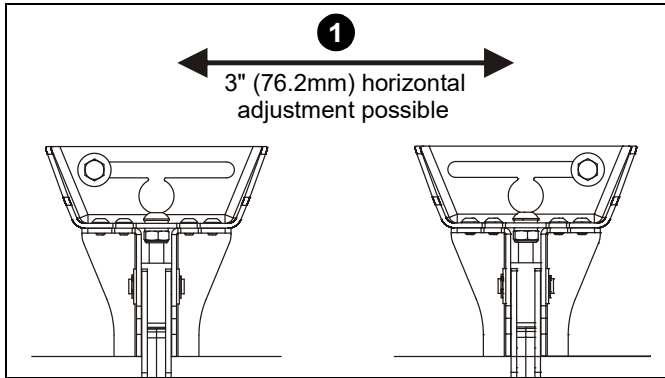

Figure 20
1. The mount wall brackets may be adjusted side-to-side at the point of attachment. (See Figure 20)